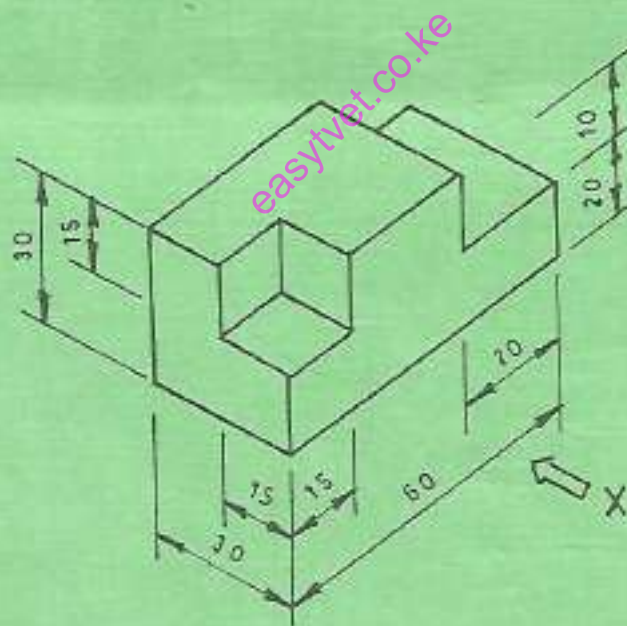

Fig. 3
7. (a) **Figure 3** shows an Isometric drawing of a block. Draw the block in first angle projection with directions of arrow X as the front elevation. (10 marks)